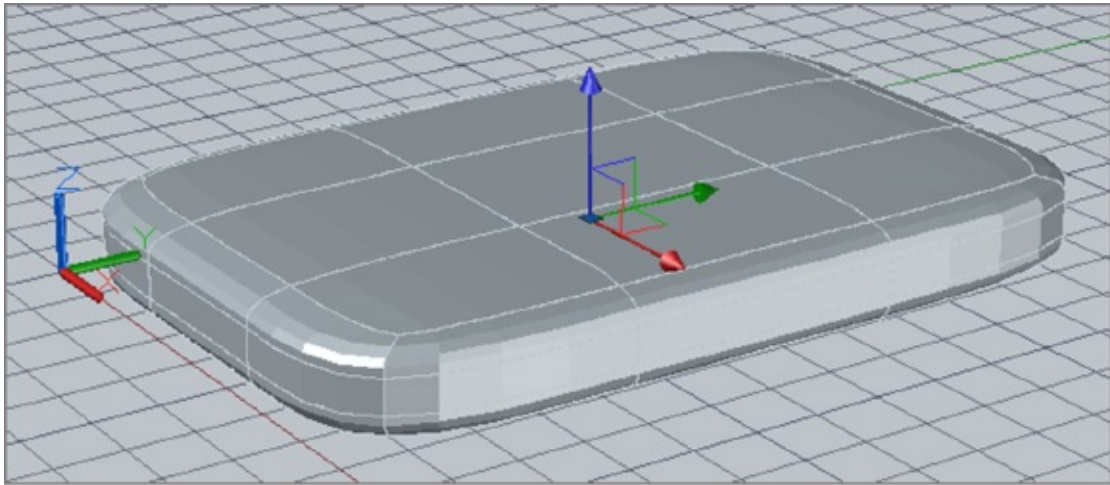

FIGURE 23.5 The mesh after applying the Smooth More tool twice
3. Click Smooth More again. The mesh becomes smoother still (see Figure 23.5).